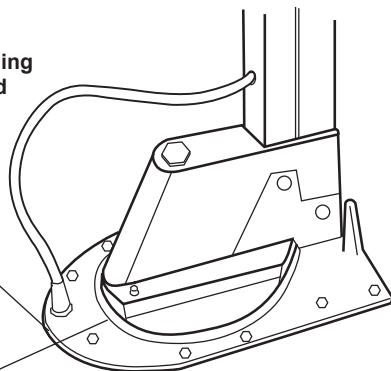

FIGURE 6
STEP 6: Attach antenna head to lift tubes with two (2) steel pins, Figure 6. Align holes in leveling bracket on back of antenna head with holes in lift tubes, insert pins and secure in place with (2) E-clips. **Use pliers and get a firm grip on E-clips.** Fit clips into groove on pins and snap into place.